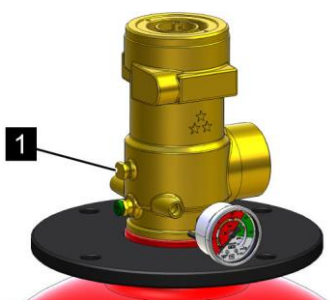

Fig. 139: Attach the blind plug
3. ➤ Seal all control outlets with blind plugs (Fig. 139/1).